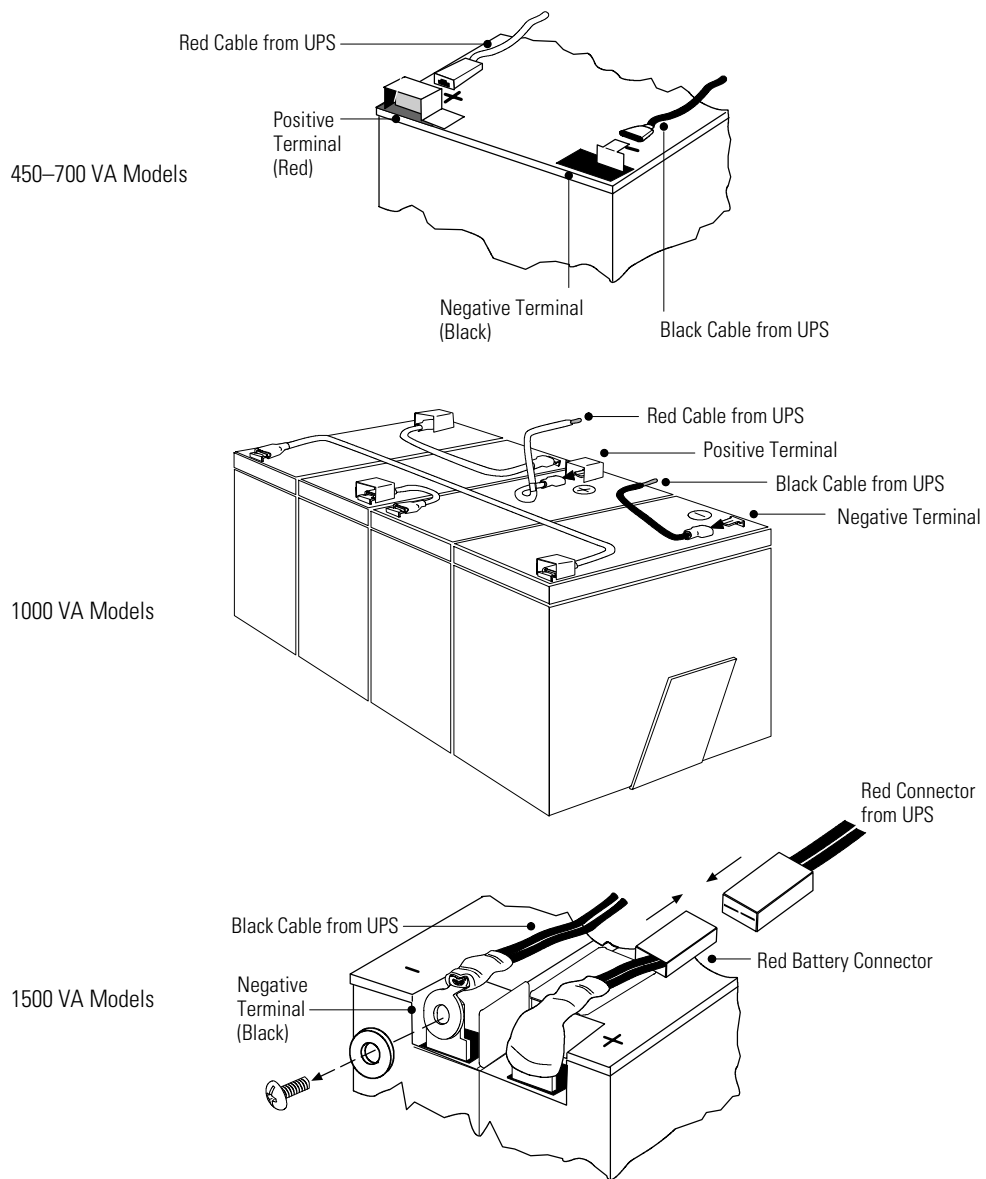

Figure 13. Internal Battery Connections
5. Connect the new batteries to the UPS as shown in Figure 13 and reinstall.